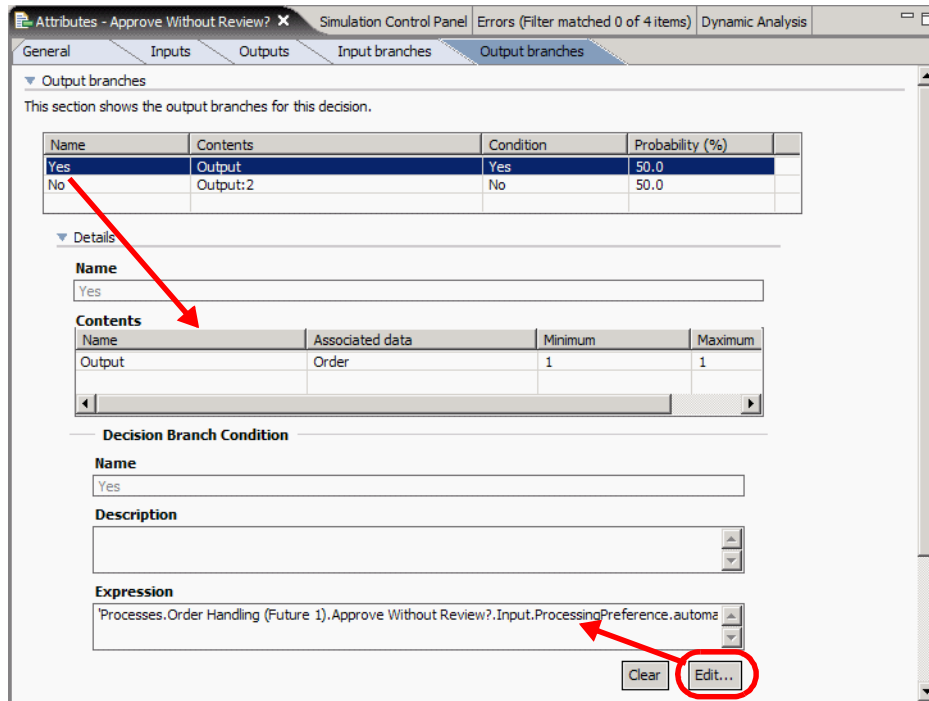

Figure 6-18 Approve without Review decision (Output Branches tab)
- ▶ Select the *Output Branches* tab and select the *Yes* condition (Figure 6-18).